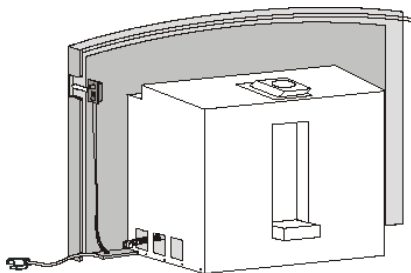

Figure 3. Gas line location on the right-hand side of the appliance (similar on both sides)
- The appliance has gas access holes on the right and left hand side. The easiest point of installation is on the left side of the fireplace and is supplied with a flexible gas connector which extends out either side of the insert a few inches (See figure 3). A 1/2" gas supply pipe must be brought near this connection before installing the Tuscany insert.
Before installing the insert, ensure gas line is brought to close proximity of the unit. For ease of installation, this appliance is equipped with an approved flexible gas connector. The connector is factory-installed and can be connected to the gas line as shown in figure 3. **DO NOT CONNECT THE GAS LINE YET.**